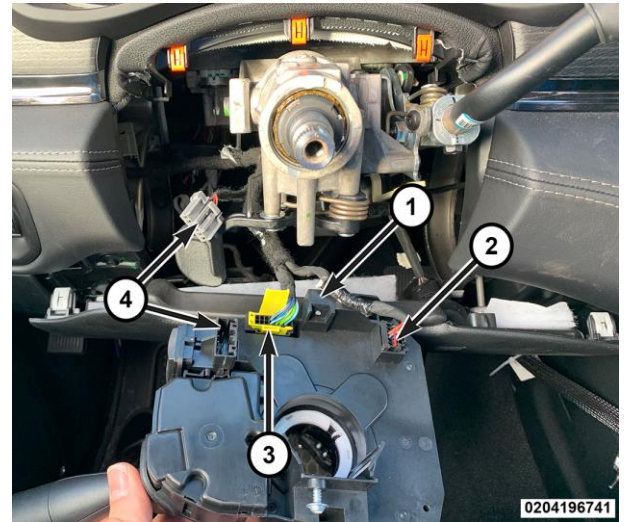

Figure 14 – SCCM Removal
27. Remove the SCCM from the steering column (Figure 14).
28. Disengage the wire harness routing clip (1) (Figure 14).
29. Disconnect the wire harness connectors (2 & 3) (Figure 14).
1. Connect the wire harness connectors (2&3) (Figure 14).
2. Secure the wire harness routing clip (1) (Figure 14).